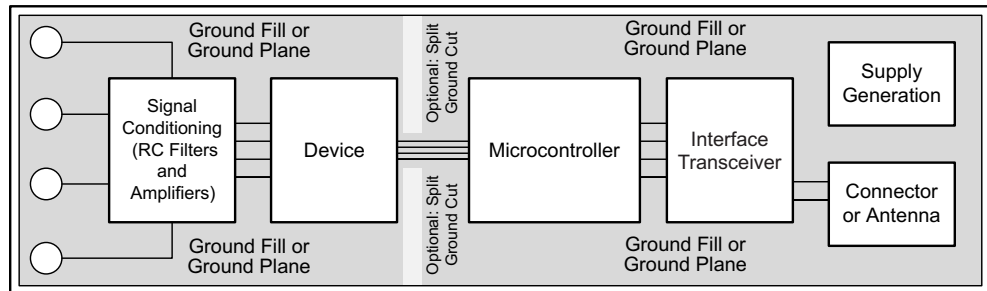

Figure 123. System Component Placement
TI recommends employing best design practices when laying out a printed-circuit board (PCB) for both analog and digital components. This recommendation generally means that the layout separates analog components [such as ADCs, amplifiers, references, digital-to-analog converters (DACs), and analog MUXs] from digital components [such as microcontrollers, complex programmable logic devices (CPLDs), field-programmable gate arrays (FPGAs), radio frequency (RF) transceivers, universal serial bus (USB) transceivers, and switching regulators]. An example of good component placement is shown in Figure 123. Although Figure 123 provides a good example of component placement, the best placement for each application is unique to the geometries, components, and PCB fabrication capabilities employed. That is, there is no single layout that is perfect for every design and careful consideration must always be used when designing with any analog component.